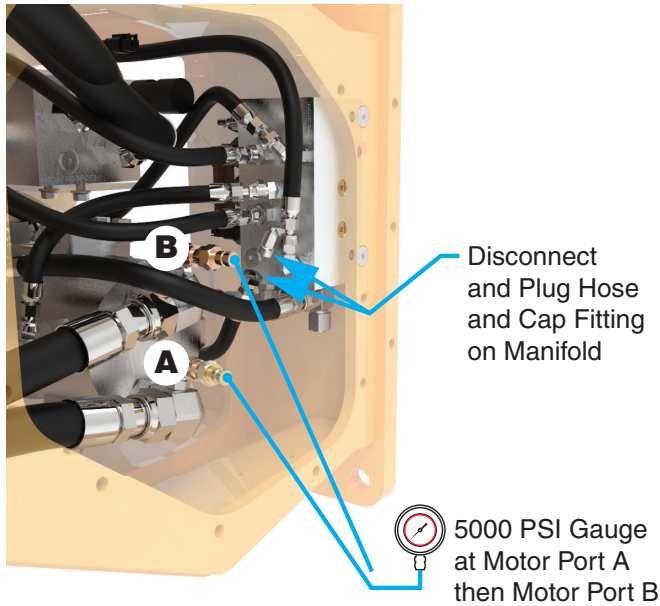

Figure 3-12 Test Equipment Setup
2. Disconnect and plug the brake release hose at the control manifold, and cap the fitting. See Figure 3-12. This will lock the winch brake to build pressure in the motor.